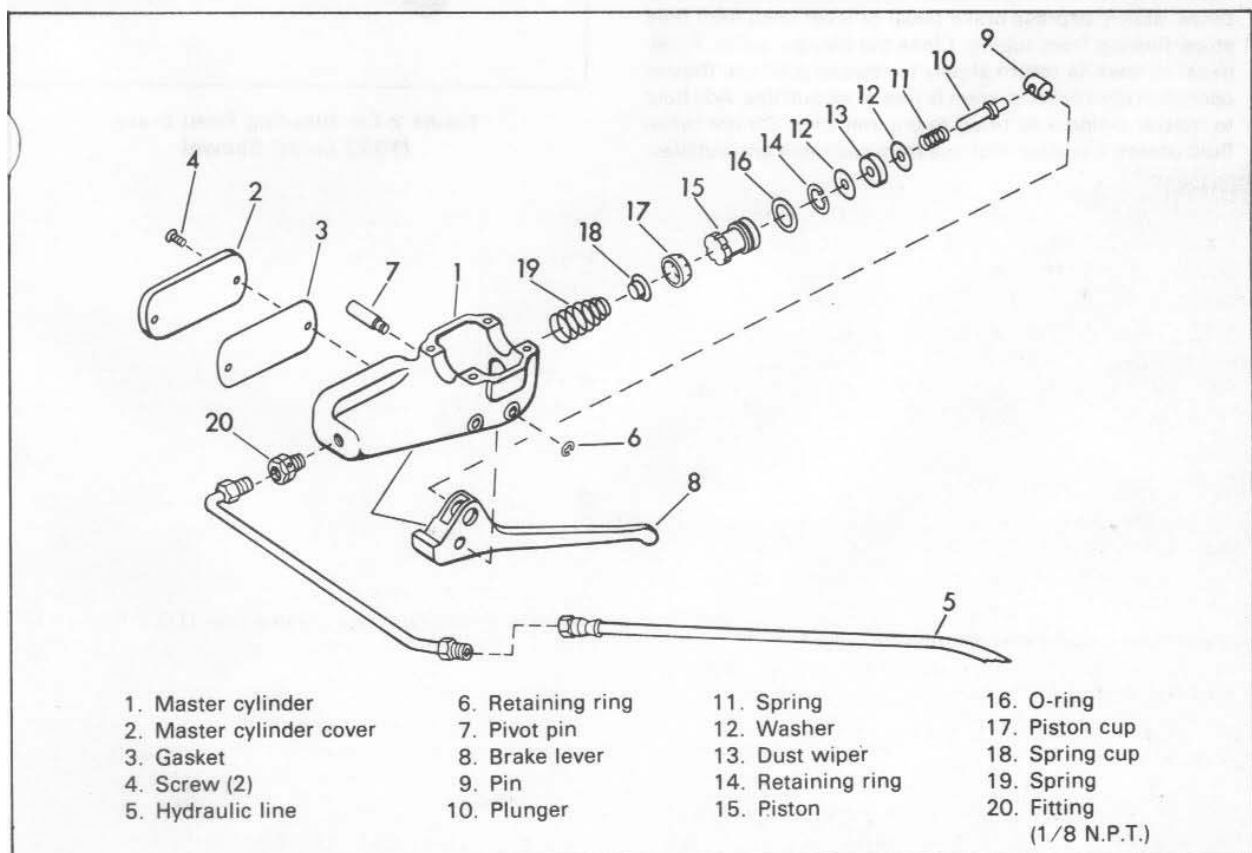

Figure 2-64. Front Disc Brake Master Cylinder (1973 and Later) - Exploded View
**DISASSEMBLING AND ASSEMBLING FRONT DISC BRAKE MASTER CYLINDER (Figure 2-64)**